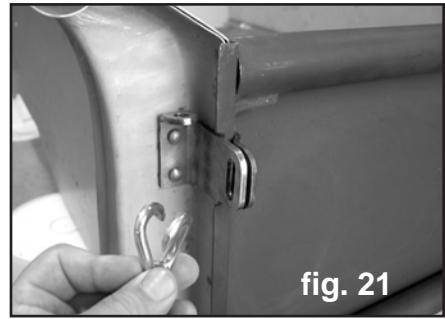

fig. 21
33. Install the tailgate chain closeable links onto the stake pockets brackets. See figure 21, 22 and 23. Squeeze the closeable links shut with pliers. This model has a left and right tailgate chain assembly. Check the tailgate for proper operation.